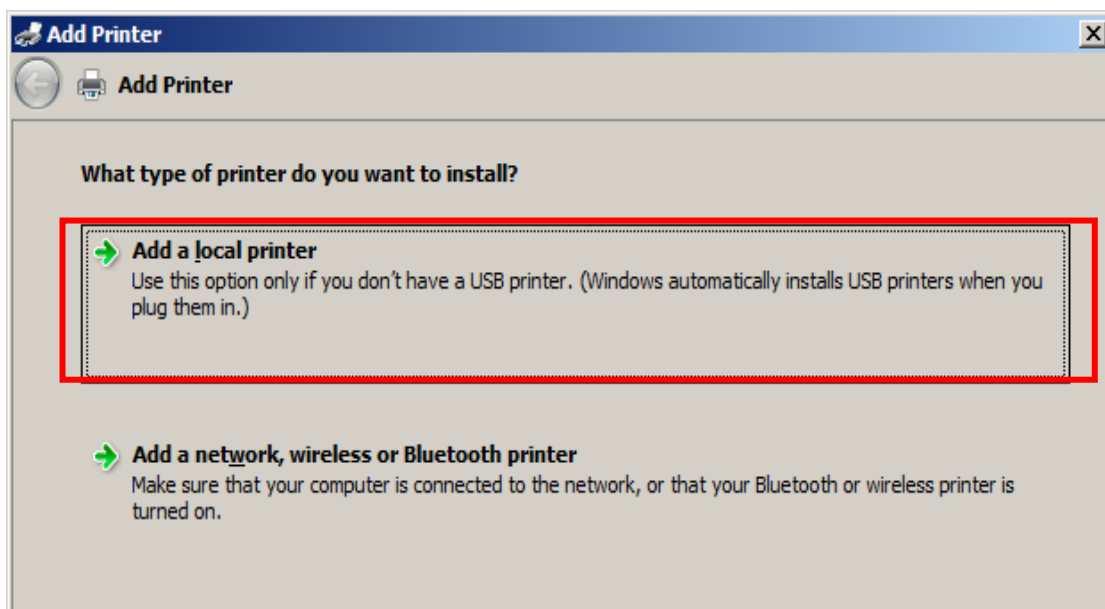

Figure 10.30 – Select Local Printer
12) Click Next and select add a Local Printer. See Figure 10.30 below.